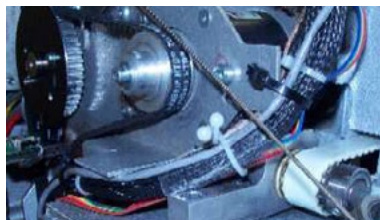

Figure 2 - LED Cluster Harness Tied to Z-Motor Mounting Bracket
11. Connect the new LED cluster harness to the left LED cluster assembly and run it through the z-motor mounting bracket and use a twist-lock cable tie to tie it with the adjacent harnesses to the z-motor mounting bracket (Figure 2).